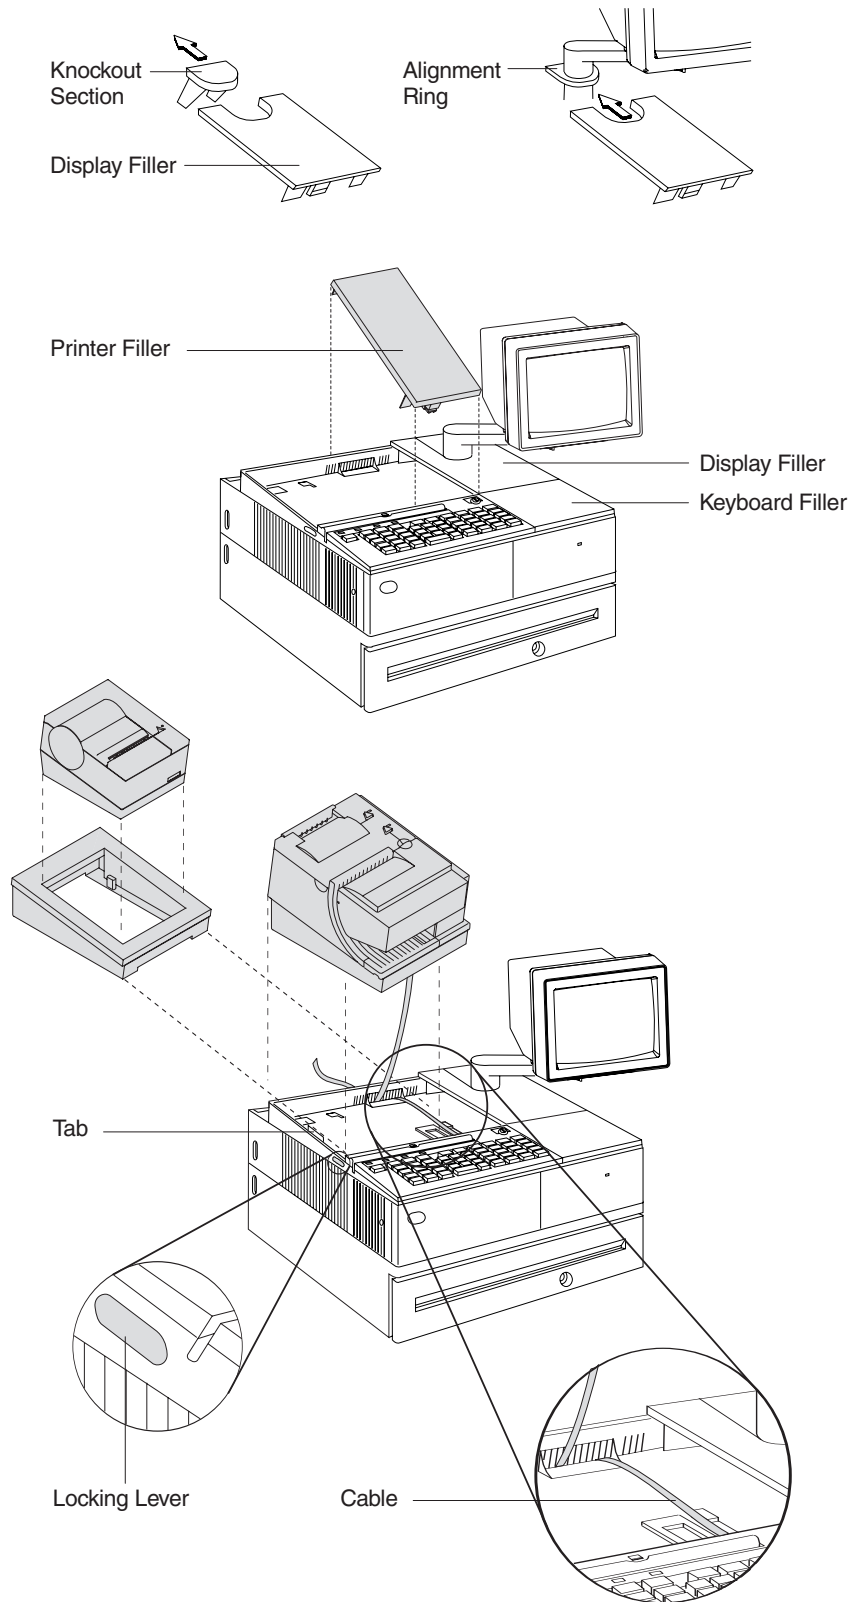

Figure 13. Installing the fillers for EIA-232/RS-485 systems
- c. Route the keyboard cable to the side of the tab as shown in Figure 13 on page 25.
- c. Align the display filler with the alignment ring and slide the filler onto the ring. Press the display filler into place. See Figure 13 on page 25.
4. If you have a short keyboard, place the keyboard filler beside the keyboard. See Figure 13 on page 25.
5. Place the printer filler beside the display filler. **Make sure you route the printer cable to the side, as shown in Figure 13 on page 25.**